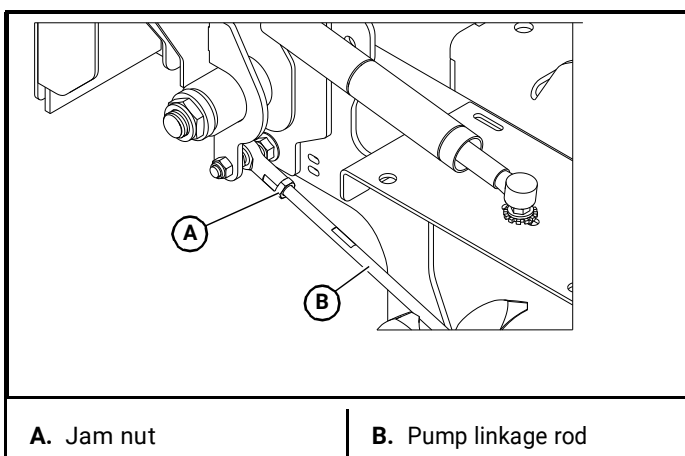

Figure 4-4
- When both wheels remain stopped, tighten the jam nuts to lock the turnbuckle in place. Figure 4-4